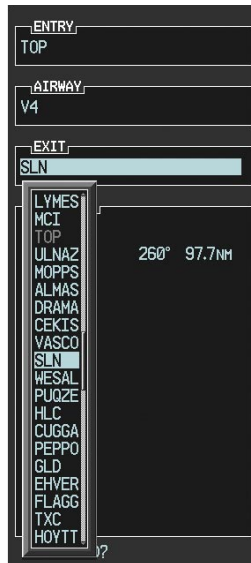

Figure 5-96 List of Available Exits for V4
- h) Press the **ENT** Key. The list of available exits for V4 is now displayed as in Figure 5-96.